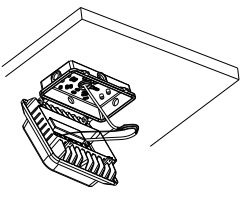

Figure 2-6
- 6.Connect the input line and ground; If the fixture is equipped with sensor, adjust the sensor settings; Take relevant waterproof measures after the wires are connected ;Figure 2-6